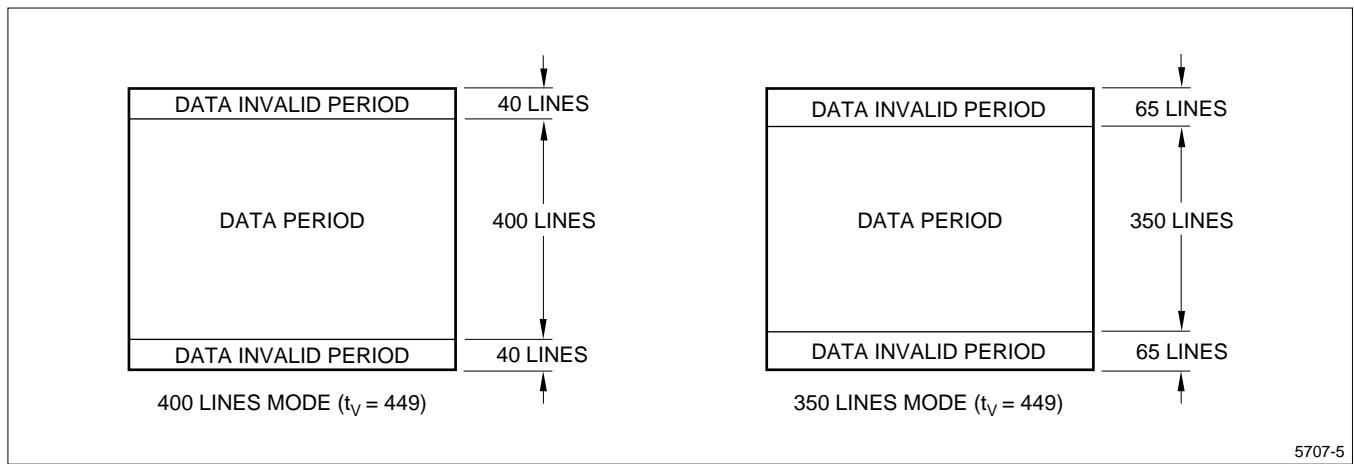

Figure 6. 400-Line and 350-Line Modes
1. Since the vertical data invalid period is displayed in 400-line and 350-line modes, inputting all data '0' is recommended during vertical data invalid period. (Refer to Figure 6). In 400-line and 350-line modes, the display position won't be centered on the screen if the vertical sync TV doesn't have above typical values.